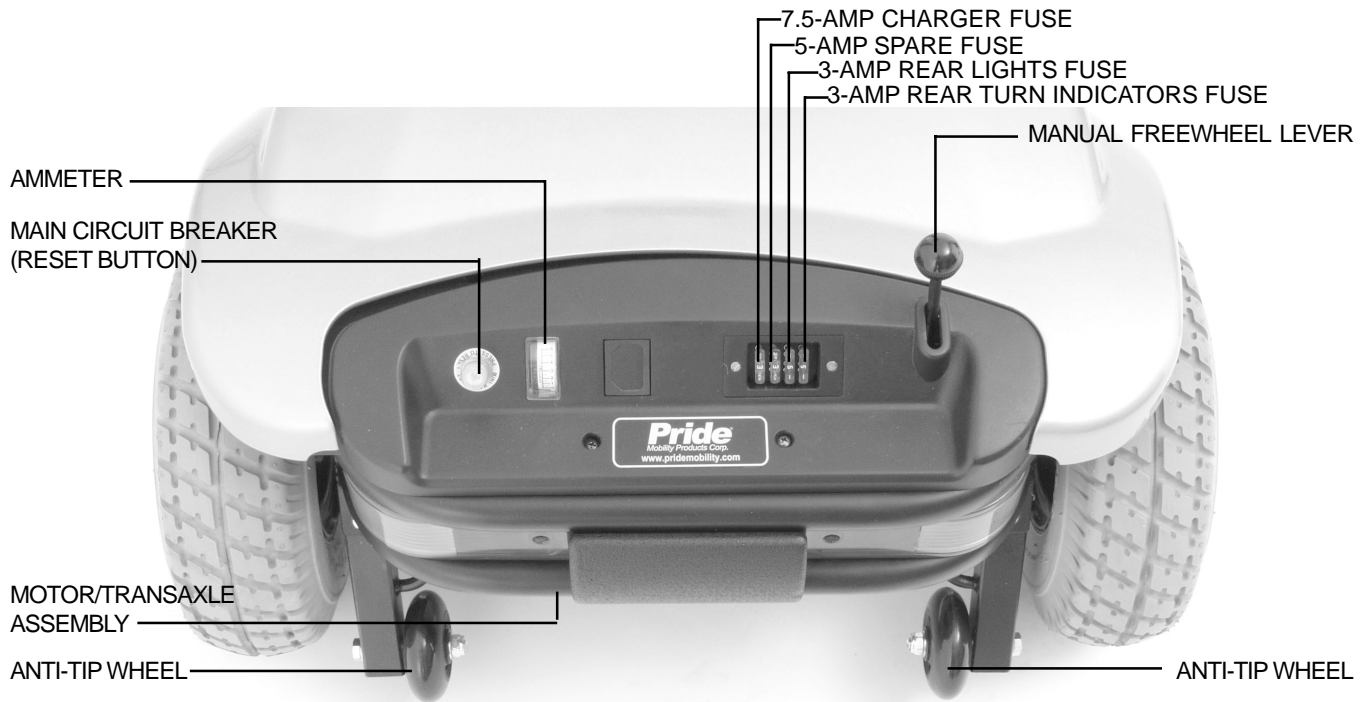

FIGURE 6. REAR SECTION
The batteries (not shown), the main circuit breaker reset button, the ammeter, the manual freewheel lever, the anti-tip wheels, the rear fuses, and the motor/transaxle assembly are located on the rear section of your Legend Classic. See figure 6.
When the voltage in your Legend Classic's batteries becomes low or the scooter is heavily strained because of excessive loads or steep inclines, the main circuit breaker may trip to protect the motor and electronics from damage. See figure 6.
- The manual freewheel lever is located on the end of the motor/transaxle assembly at the right rear of the Legend Classic. See figure 6.